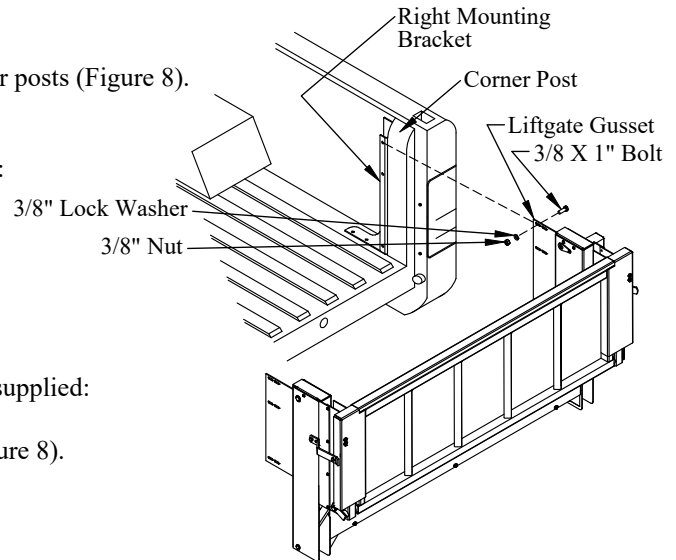

Figure 8: Mounting bracket and liftgate.
2. **Position** the mounting brackets into the truck bed in front of the corner posts (Figure 8).
- (3) 3/8"x1" hex head bolts on the bracket-side (Figure 8).
- (3) 3/8" lock washers, and (3) 3/8" nuts on the gusset-side (Figure 8).